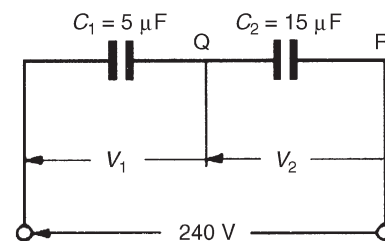

Figure 6.10
- (a)  $2\ \mu\text{F}$  in parallel with  $3\ \mu\text{F}$  gives an equivalent capacitance of  $2\ \mu\text{F} + 3\ \mu\text{F} = 5\ \mu\text{F}$ . The circuit is now as shown in Fig. 6.10.
- (b) The charge on each of the capacitors shown in Fig. 6.10 will be the same since they are connected in series. Let this charge be  $Q$  coulombs.